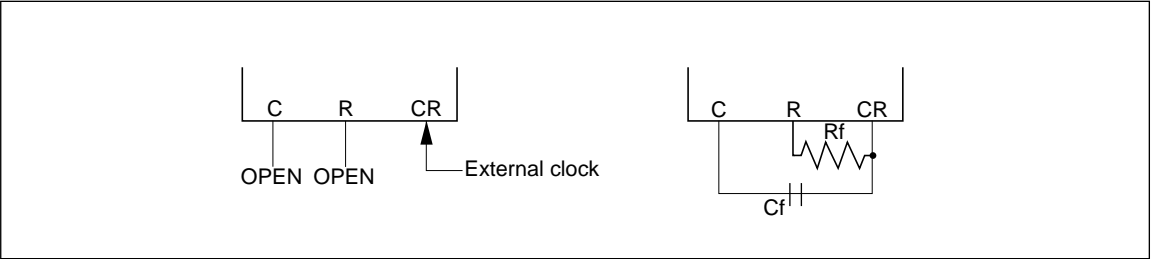

Figure 4 Oscillator Connection in Master Mode
1. CR Oscillator: The CR oscillator generates the HD66503 operation clock. During master mode, since the operation clock is needed, connect oscillation resistor R_f with oscillation capacitor C_f as follows. When the external clock is used, input external clock to pin CR and open pins C and R (figure 4).